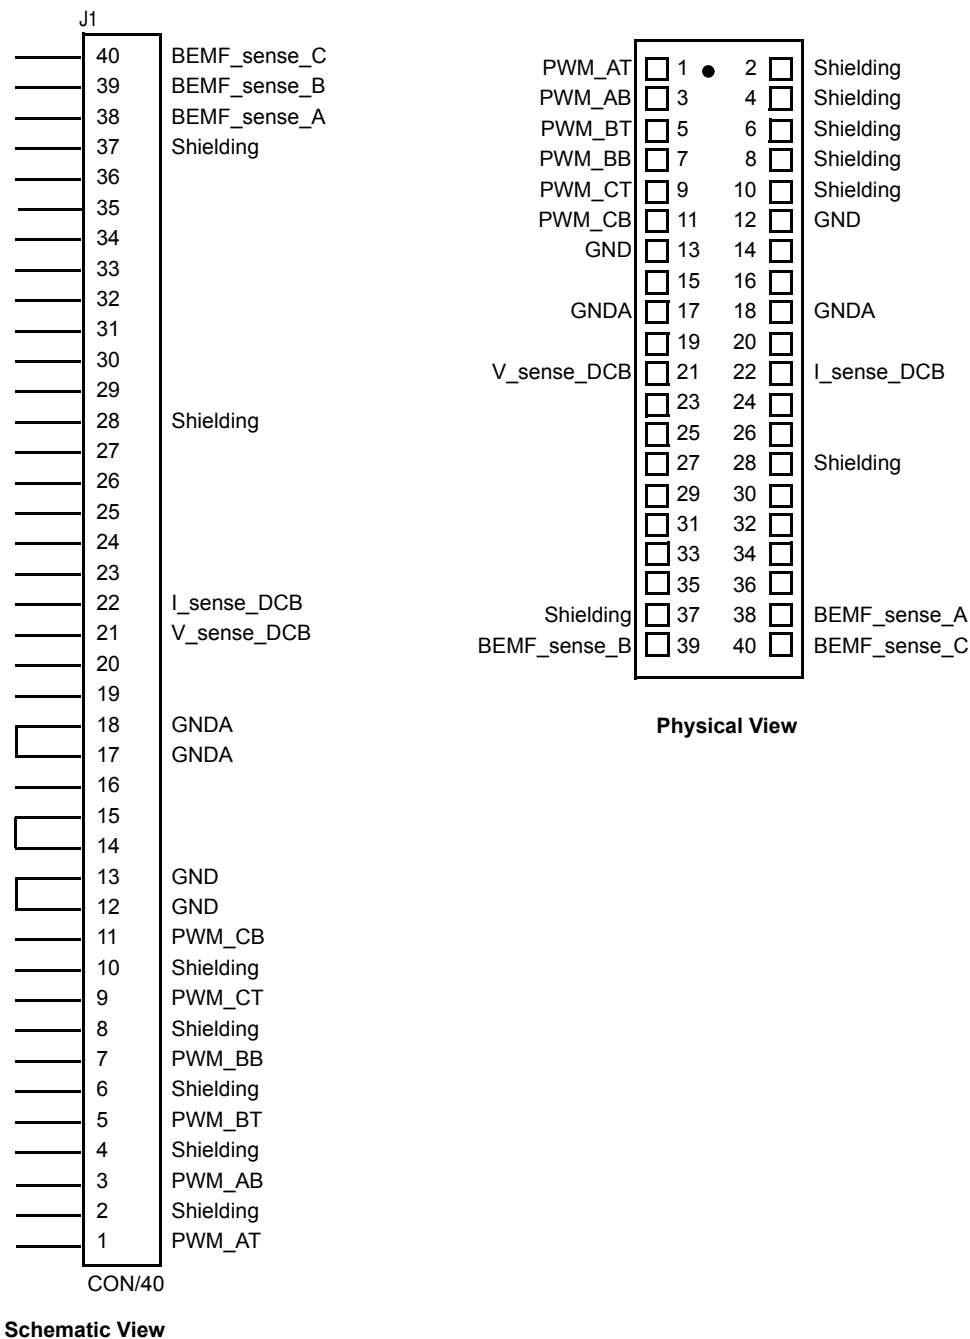

Figure 3-1. 40-Pin Input Connector J1
- Pin assignments are shown in Figure 3-1, and a pin-by-pin description is contained in Section 3.1, "Signal Descriptions."
Input connections are made via 40-pin ribbon cable connector J1. Pin assignments for the input connector are shown in Figure 3-1. Power connections to the motor are made on output connector J4. Phase A, B, and C are labeled on the board. Power requirements are met with a single external 12 V, 4 A power supply. Two connectors, labeled J2 and J3, are provided for the 12 Vdc power supply. While the former is used for 12 Vdc input, the latter is used for 12 Vdc output for powering the controller board. Both are located in a corner of the board.
Pin descriptions for each of these connectors and the test points are identified in the following information. Pin assignments for the UNI-3 connectors are shown in Figure 3-1. Signal descriptions are provided in Table 3-1 through Table 3-3.
Signal inputs are grouped together on a 40-pin ribbon cable connector J1, located at the edge of the board. Pin assignments are shown in Figure 3-1. Pin descriptions are listed in Table 3-1.